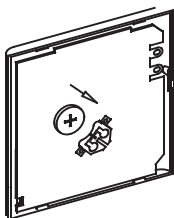

Fig. 10 – Battery Installation
1. Place the battery in the unit and ensure the positive side of the battery is in accordance with the polarity markings (see Fig. 10).